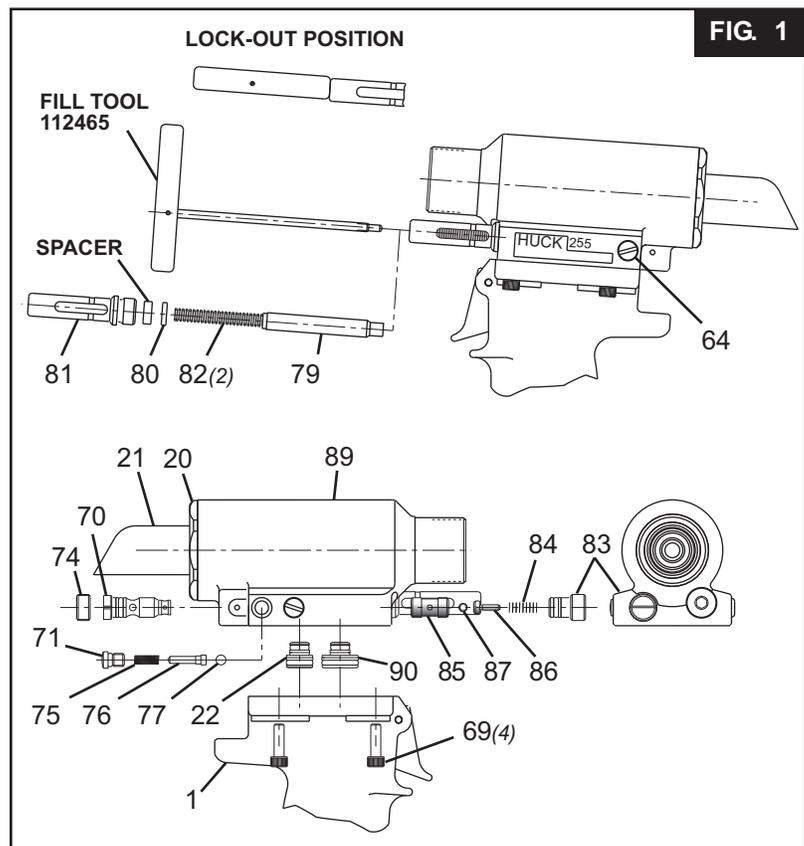
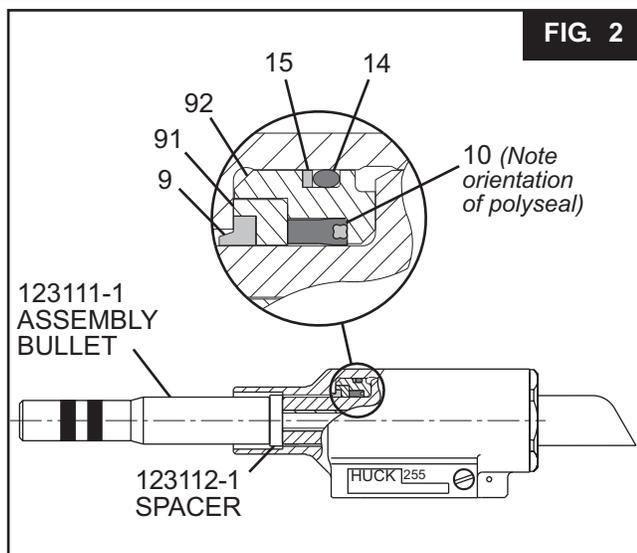

FIG. 1
FIG. 2
For component identification and Parts list, refer to Figures 1 thru 4 and 9.
3. Insert Fill Tool P/N 112465 through reservoir housing and screw into Reservoir Plunger (79) locking it in the out position. (Fig. 1)
4. Unscrew Cap Screws (69) with 5/32 hex key. Carefully lift Head (89) straight up from Handle (1), remove Pull Gland (90) and Return Gland (22) from separated assemblies. Remove seals from glands. (Fig. 1)
5. Unscrew Plug (83) of return Pressure Relief Valve from front of head. Remove Spring (84), Valve Guide (86), Sleeve (85) and Steel Ball (87). A small magnet is helpful. (Fig. 1)
6. Unscrew Bleed Plug (64). Hold over waste oil container and release fill tool slowly. (Fig. 1)
7. Unscrew Reservoir Housing (81) from head. Remove two Springs (82). Slide Reservoir Plunger (79) from head. Remove spacer and Quad Ring (80). A pick may be used to remove the quad ring. (Fig. 1)
8. Unscrew Plug (71) of reservoir check Valve from side of head. Remove Spring (75), check Valve Guide (76) and Stainless Steel Ball (77). (Fig. 1)
9. If check Valve Seat (78) is damaged contact your Huck representative. If Seat (88) is damaged it can be removed (*through the front of the tool head only*)
NOTE: This will push out front and rear gland assemblies and wiper and wiper housing. (Fig. 2)
16. Remove Bleed Plug (64) from handle. (Fig. 1)
(Refer to Figures 1 thru 5 and 9.) Clean components with mineral spirits, or similar solvent. Inspect for wear or damage and replace as necessary. Replace all seals of disassembled components. Use O-rings, Quad rings and Back-up rings in **Service Parts Kit 255KIT** Smear LUBRIPLATE 130AA or PARKER-O-LUBE on O-rings, Quad rings, Back-up rings and mating parts to ease assembly. Assemble tool giving care not to damage O-rings, Quad rings, or Back-up rings.
12. Install O-ring (72) and Back-up rings (25) onto seat. Drive seat and seal assembly in using soft drift taking care not to damage ball seat surface. (Fig. 1 & 9)
13. Assemble Pull Piston (11) with new Seals (12 & 13). Lubricate with LUBRIPLATE or PARKER SUPER-O-LUBE.
14. Thread Assembly Bullet (123111-1) onto Pull Piston (11) and push entire assembly into head. (Fig. 2) **NOTE:** Spacer (123112-1) is **not** needed for this procedure.
15. Push Front Gland (92) with O-ring (14), Back-up Ring (15), Polyseal (10), Wiper Housing (91) and Wiper Seal (9) in place onto Pull Piston (11). (Fig. 2)
16. Install O-rings (16 & 18) and Back-up Rings (17 & 19) on Rear Gland (93). Push complete assembly into head, screw in End Cap (20) and torque Cap to 55-60 ft.lbs.
17. Install O-ring (72) & Back-up Ring (25) on Plug (83). Install Ball (87), Valve Guide (86), Sleeve (85), Spring (84) and Plug (83) into head. (Fig. 1 & 9)
18. Install O-ring (65) on Plug (71). Install Ball (77), Guide (76), Spring (75) and Plug into head.
19. Push Pintail Deflector (21) onto end of Pull Piston (11).